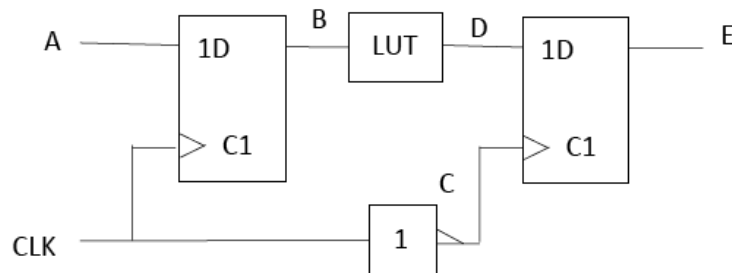

Figure 1.4
- (d) In the circuit of *Figure 1.4*, the propagation delay of the flip-flops is $t_p = 4$ ns, and the setup and hold time are $t_s = 1.5$ ns and $t_h = 1$ ns respectively. The inverter and the logic module LUT has a propagation delay in the range of $1 \text{ ns} < t_d < 3$ ns. The clock signal *CLK* is symmetrical with period *T*.